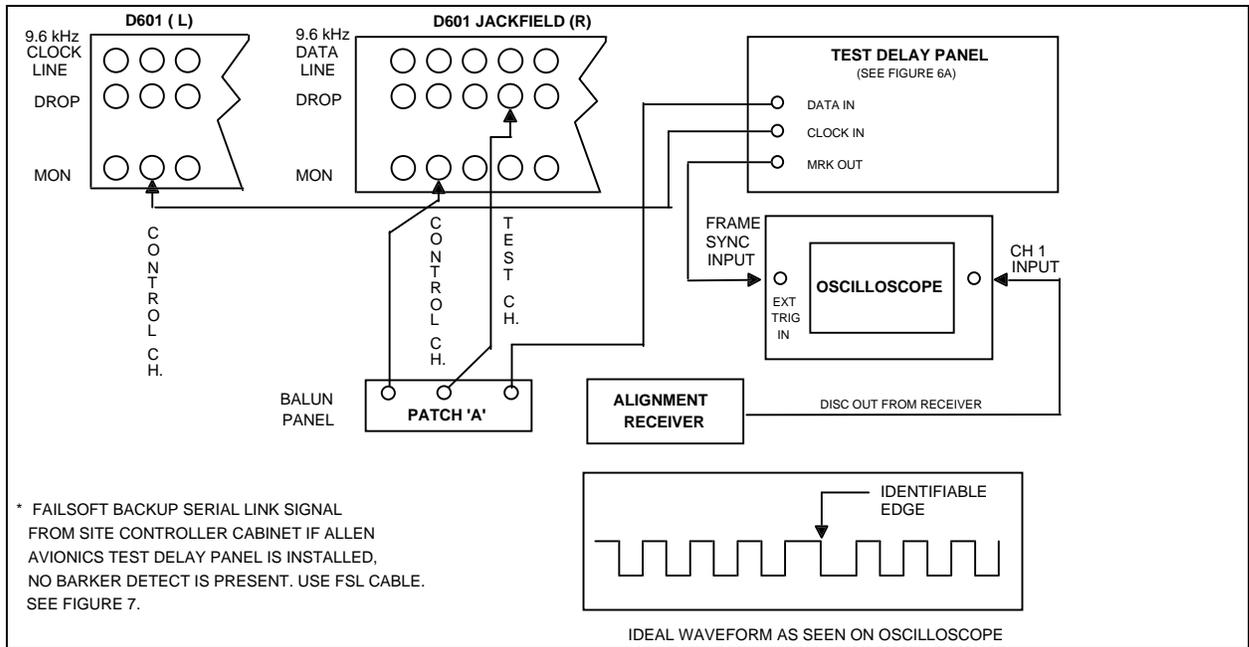
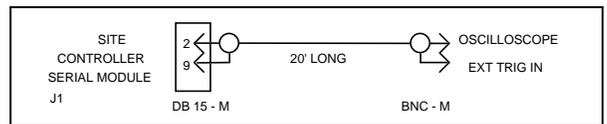

Figure 6. Digital Delay Adjustment
Figure 7. FSL Cable
- At the jackfield, patch the control channel data into the channel being set (D601 9.6 DATA). See Figure 6.
3. With the test delay set to zero "0", use delayed sweep on the oscilloscope to display the "dotting/barker" region of the control channel data (External trigger on FSL, discriminator output of the test radio set to the proper RF channel). On the control panel, only the site under test should have PTT ON (See Figure 6 for "dotting/barker" region and oscilloscope hook up). If no sync out is present, use FSL Cable. Refer to Figure 7.
Perform the steps in the order given. Refer to the Figure 6 and Delay Unit Maintenance Manual LBI-38474. Ensure delay A/B select switch (S2-1 & S6-1) are in the 'A' position on delay card (Closed), except for loop systems, switches should be open to allow 'B' select.
2. Connect the test equipment as shown in Figure 6.
5. Set the oscilloscope to view the first "dotting/barker" region of data after the scope triggers using delayed sweep. Pick a uniquely identifiable zero crossing of data (see Figure 6). You may want to use AVERAGE of the oscilloscope traces to display a smoother trace.